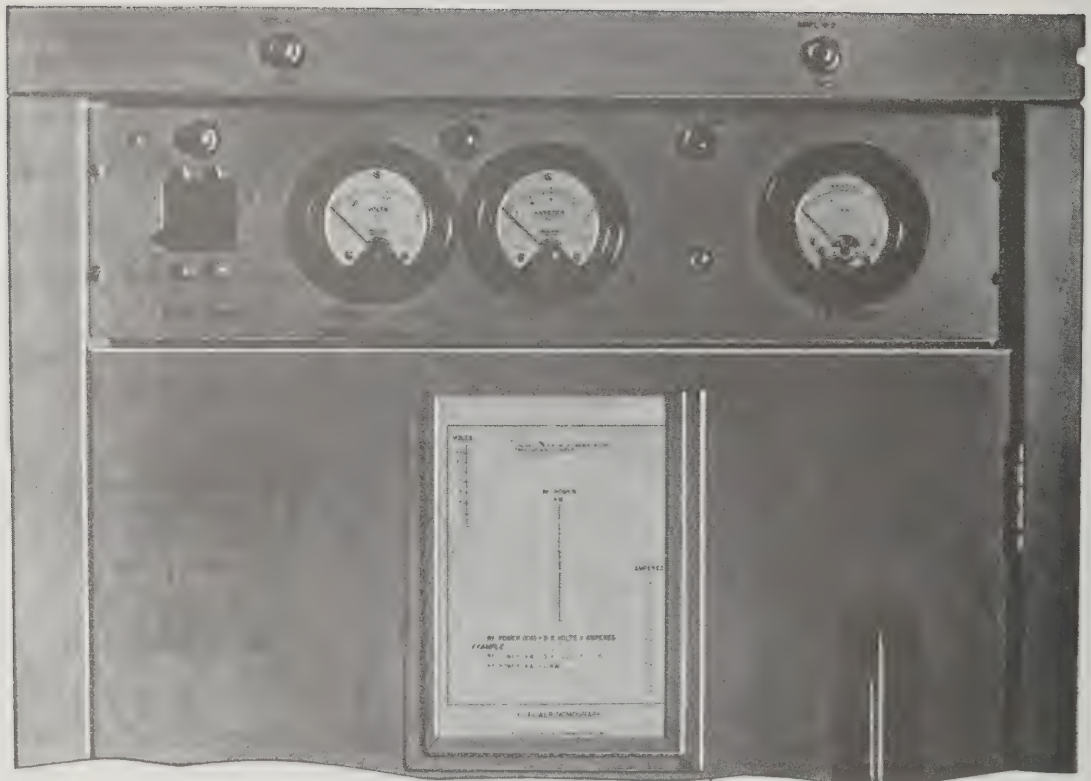

Figure 3-2. RF Power Nomograph Chart and Indicators
**Refer to figure 3-2 for indicator lamps 9DS1 and 9DS2 which are mounted only on dummy load E.
e. Place a straight edge on the RF POWER NOMOGRAPH chart, located on the front door of the dummy load cabinet below the meters. Align the straight edge so that it connects the recorded values of heater VOLTS and AMPERES on the chart (fig. 3-2).